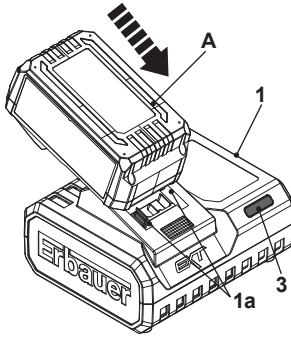
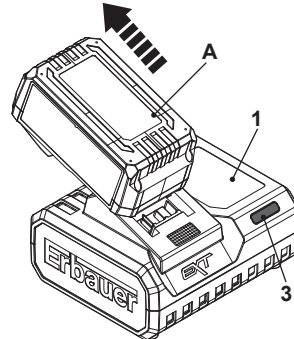

Fig. 2
Fig. 3
1. Align and slide the battery pack (A) onto the sliding slots (1a) of the charger (1) all the way to the stop. Make sure that the electrical contacts of the charger (1) are fully inserted into the battery pack (A) (Fig. 2).
3. The charging status indicator (3) flashed in green, and the ventilation fan of charger (1) was running steady with sound.
4. The charging status indicator (3) keeps green after charging is done (this normally takes 1 hour, see below “Charging status indicator” section for charging status), disconnect the charger (1) from the power supply.
5. Remove the battery pack (A) from the charger (1) (Fig. 3)